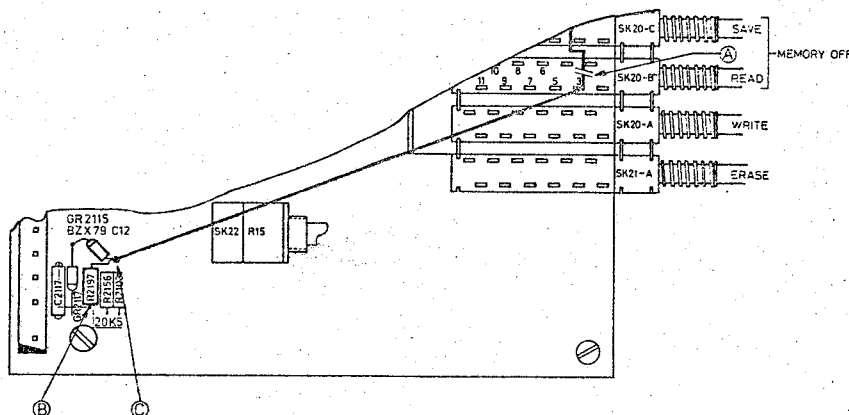

Fig. 1. Part of variable persistence and storage unit.
2. Interrupt the track (on the track-side of the p.w.b.) between point 3 of SK20B (READ) and the anode of GR2117 as indicated in fig. 1 (A).
4. Solder one side of a resistor of 20k Ω (5322 116 55255) on the point, which is connected with C2117 as indicated in fig. 1 (B) (on the component side of the p.w.b.).
5. Solder between the resistor of 20k Ω and the anode of the zenerdiode GR2117 a zenerdiode (GR2115) BZX 79 C12 (4822 130 34197). The cathode of GR2115 to the anode of GR2117 (see fig. 1).
6. Mount an interconnection wire between the anode of GR2115 (fig. 1 (C)) and point 3 of the switch SK20B (READ).